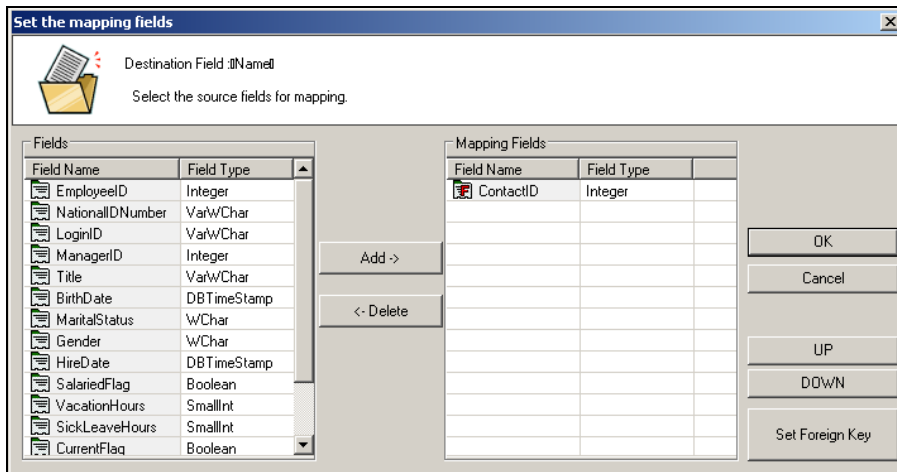

Figure 17-8
5. In the left pane of the mapping field dialog box, select the field(s) of the source database corresponding to the Name field of the GV-ASManager database. Then click **Add**. In this example (Figure 17-8), the **Contact ID** field of the source database corresponds to the **Name** field of the GV-ASManager database.